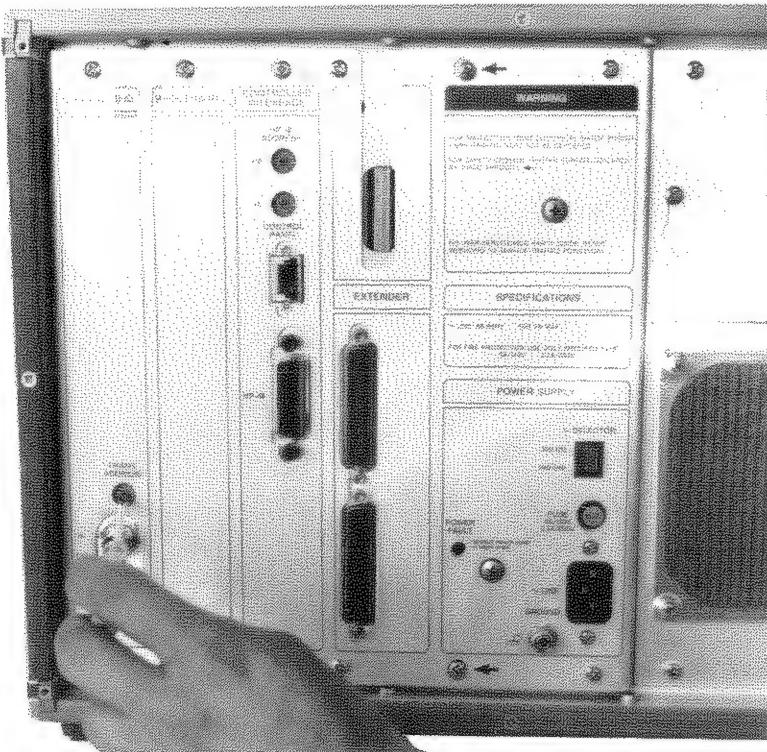

Figure 7. Setting the Frame Address.
Refer to Figure 7 for setting the frame address.
The HP-IB ADDRESS (X10 and X1) rotary switches are 10-position switches like the frame address switch of Figure 7. Set the 10's digit and 1's digit by the same procedure shown in Figure 7. If a number (NN) larger than 30 is set, the resulting address will be NN MODULO 30. For example, if 57 is set, the address is $57 \text{ MODULO } 30 = 27$; if 69 is set, the address is $69 \text{ MODULO } 30 = 09$ which is the address the HP 3235 is shipped with.